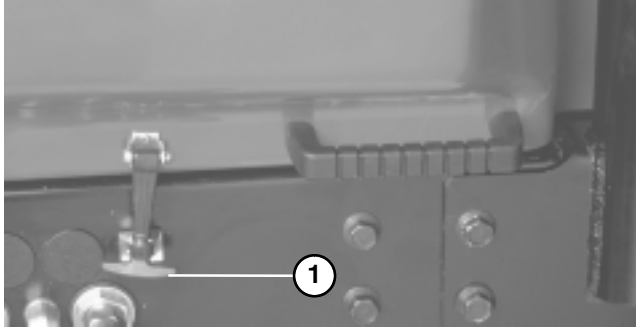

Figure 11
1. Park machine on a level surface. Release hood latch and open hood (Fig. 11).